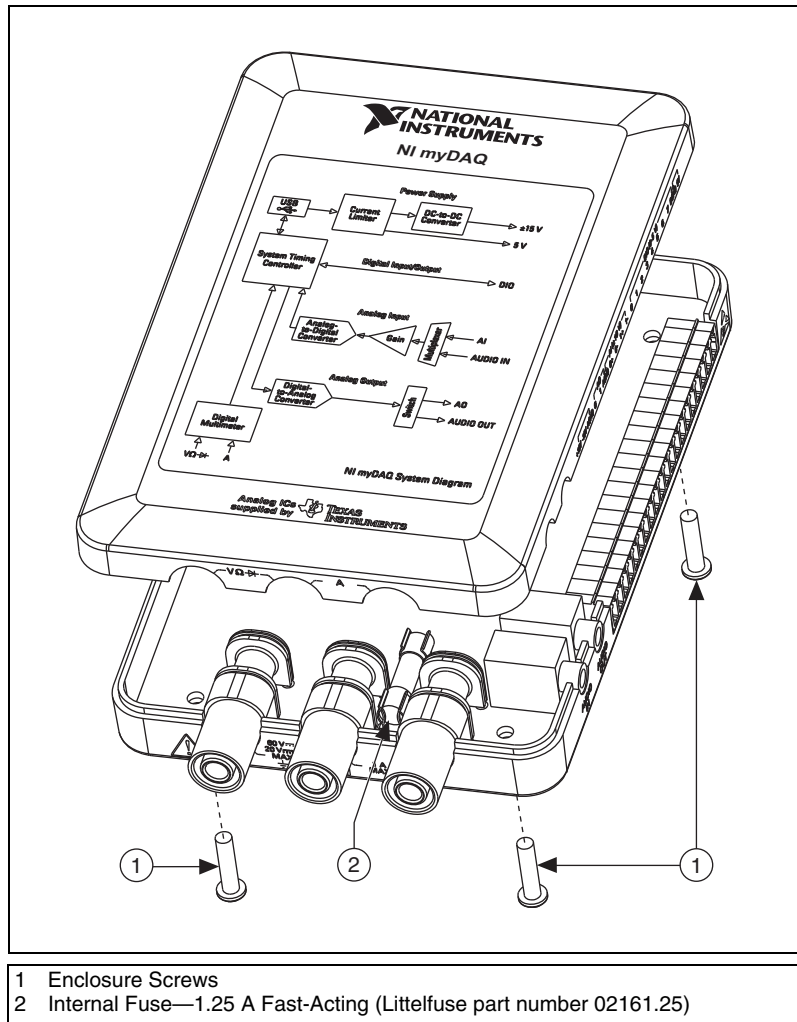

Figure 10. NI myDAQ Fuse Location
4. Replace the broken fuse while referring to Figure 10 for the fuse location.